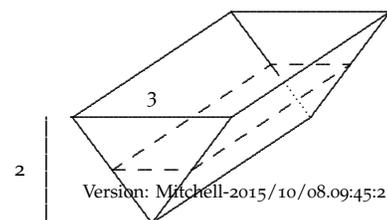

Figure 8.8: Find the work done in emptying the top foot of the trough
**YOU TRY IT 8.7 (Non-rotation).** A triangular trough for cattle is 8 ft long. The ends are triangles with a base of 3 ft and height of 2 ft (but the vertex points down). See Figure 8.8. Find the work done by the cattle in emptying just the top foot of water (density  $62.5 \text{ lbs/ft}^3$ ) over the edge. (Answer: 500 ft-lbs.)